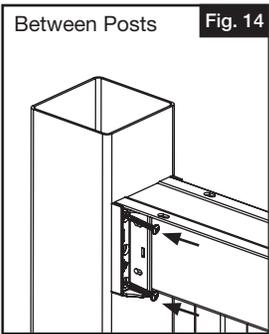

Fig. 14
- iii. Tightly install screws (Fig. 14 & 15).